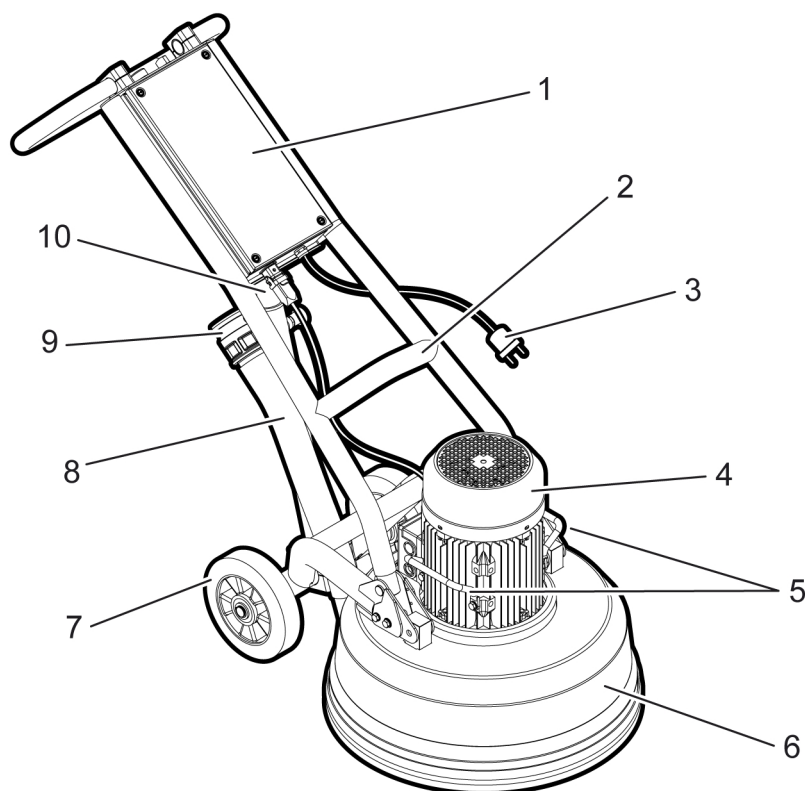
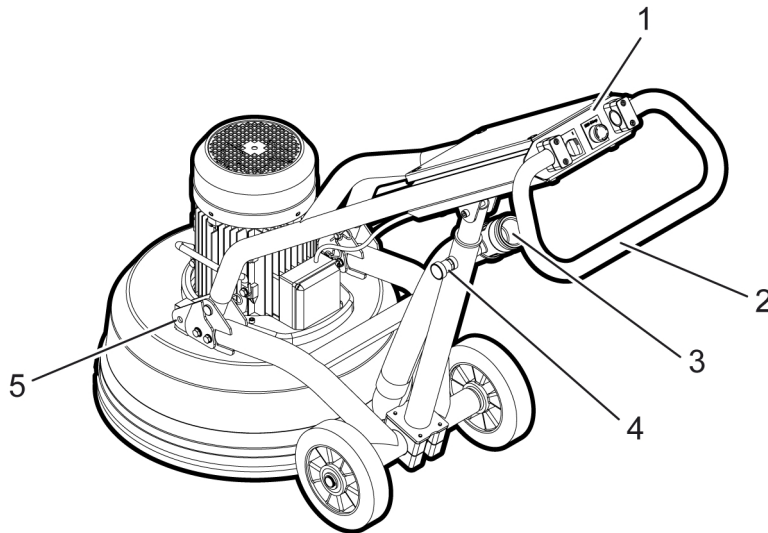

Figure 3-1. The front of the machine
Figure 3-2. The machine's rear
The machine is constructed from a number of main components, see Figure 3-1, page 10 and Figure 3-2, page 11. For each machine model in the series, there are a number of different motor alternatives, see tables in Technical data, page 30.
The machines in the series are equipped with a lifting eye on the chassis and two lifting handles on the grinding head, see Figure 3-1, page 10. The lifting eye is intended for lifting the complete machine. The lifting handles are intended for lifting the grinding head, when it is separated from the chassis, and then only for short, low lifts, e.g. into the boot of a car. The lifting handles are not to be used for lifting the complete machine.
The handle can be placed in a number of different working positions by loosening the locking mechanism for adjusting the handle (see Figure 3-2, page 11) and moving the handle up and down to the desired working height. The angle of the handle (see Figure 3-2, page 11) can also be adjusted to obtain the best ergonomics. The handle can also be placed in the upright position, which must be used when the machine is tipped to enable access under the grinding head, e.g. when changing tools.
- Adjust and lock the handle in the desired position, using the locking mechanism, see *Figure 3-2, page 11*.
- Adjust the handle to the desired angle to achieve the best ergonomics, see *Figure 3-2, page 11*.
1. Undo the quick release coupling for the motor cable, see *Figure 3-1, page 10*.
2. Remove the suction hose from the grinding cover or from the vacuum connection, see *Figure 3-1, page 10* and *Figure 3-2, page 11*.
3. Remove the safety pins from the quick release, see *Figure 3-2, page 11*.